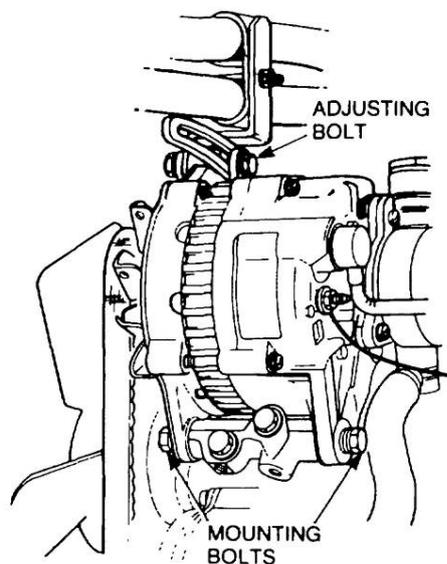

Figure 32 Alternator Adjusting Bolts
- k.** Slacken the alternator mounting bolts (Figure 32), remove the adjusting bolt and remove the fanbelt.